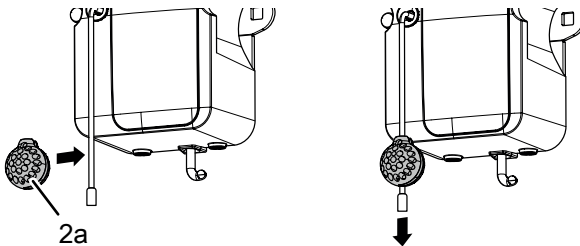

Fig. 10: Disabling burglar resistance
Hold the coiled cable (25) up vertically as shown in Fig. 10. The maximum extension of the horizontally routed cable must not exceed three times the original length. Attach the cable clamp (22) at the bend. Hold the wall clamp (22) against the wall and mark its position. Drill the hole, insert the wall plug (20) and fasten the cable clamp (22) with the screw (12).